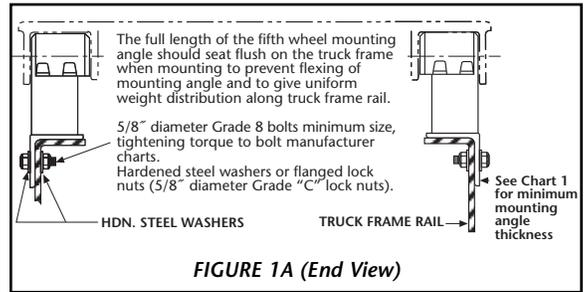

FIGURE 1A (End View)
Bracket with Mounting Angle (see Figure 1A, 1B, and 1C):
Bracket for Angle Mounting (see Figure 1A, 1B, and 1C):
3. In addition to the information given in *"Installation: General Recommendations,"* follow the recommendations given in *Figures 1A, 1B,* and *1C*. The following sequence is suggested for both fabricated and cast brackets:
- B. Bolt the angles to the tractor as shown in *Figures 1A* and *1B*.
- D. For **fabricated** brackets (a welded assembly), weld the bracket to the mounting angle with 1/4" fillet welds on both sides, and 1/2" groove welds on both ends, as shown in *Figures 1A* and *1B*. The welds should be continuous around the bracket and joined at the corners.